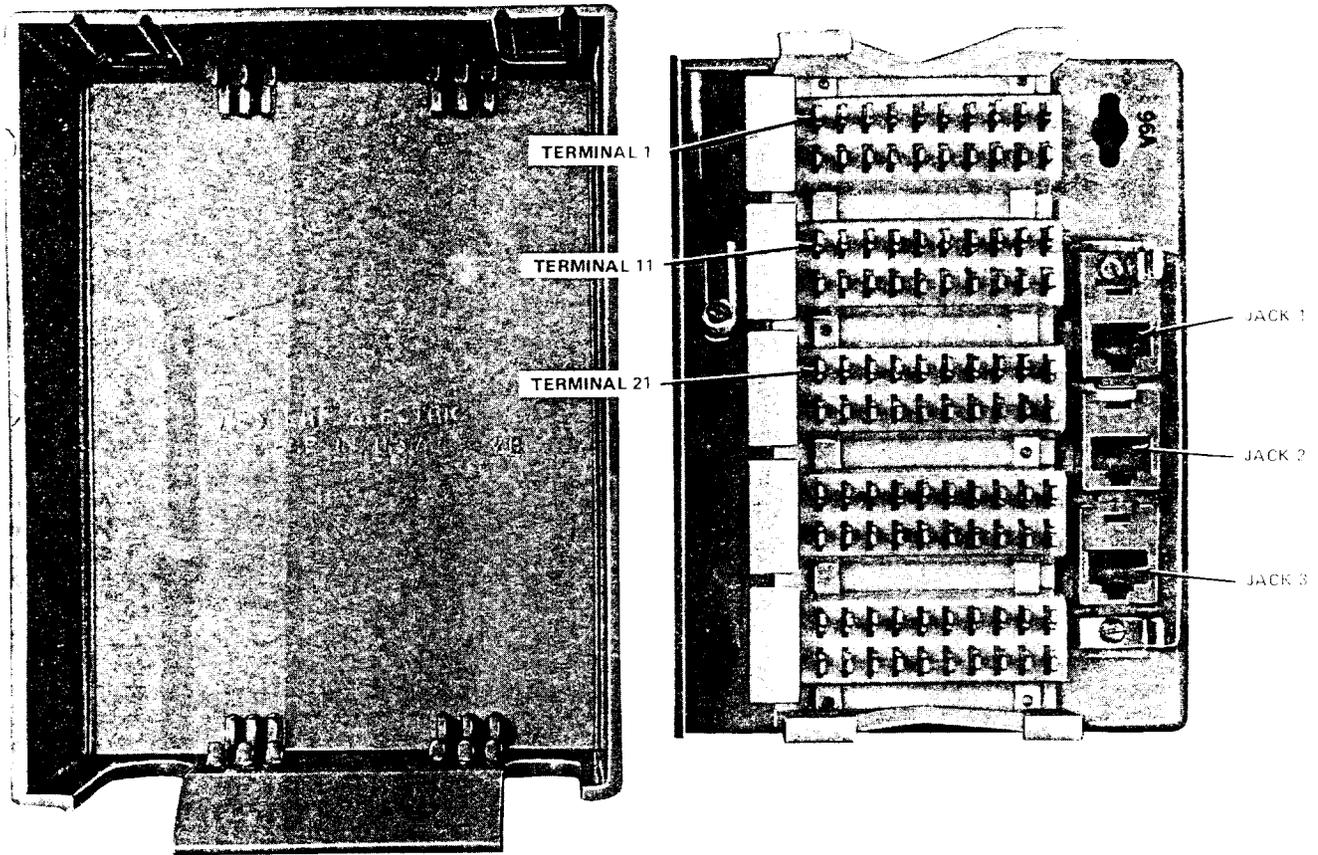
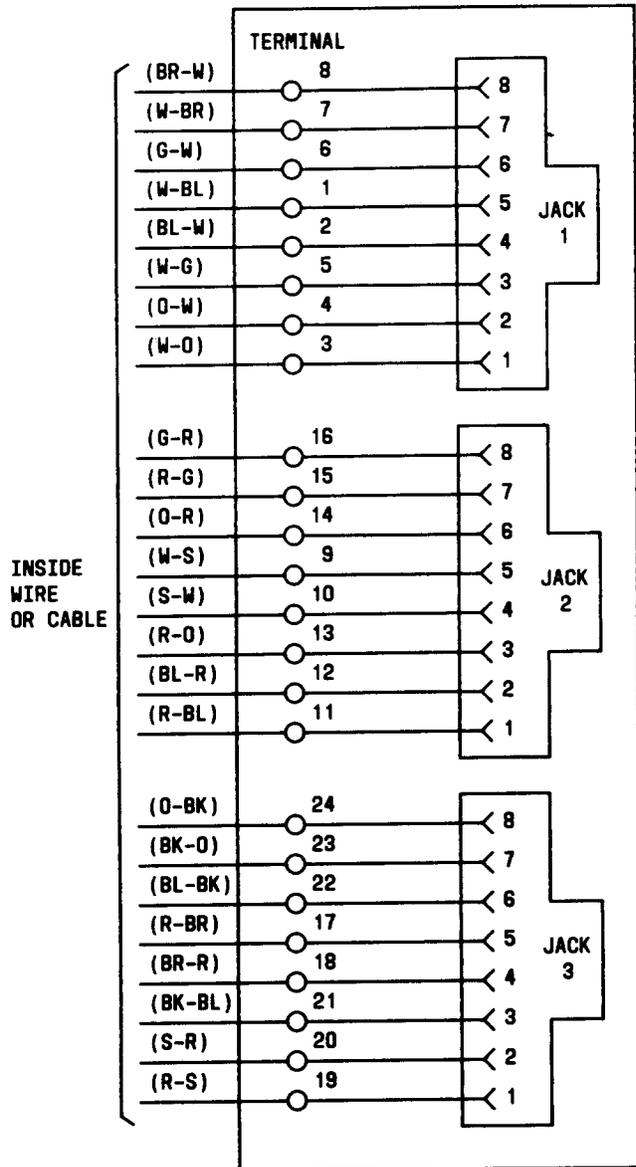

Fig. 4—96A Connecting Block
Fig. 5—96A Connecting Block, Schematic
**2.04** The 96A connecting block (Fig. 4) is similar to a 66E3-25 connecting block except the KS-type connector has been replaced by three 8-contact modular jacks. The modular jacks are wired to the clip terminals so that up to three modular telephone sets with D4-, D6-, or D8-type plug-ended mounting cords can be terminated. Wiring of the 96A connecting block is shown in Fig. 5.